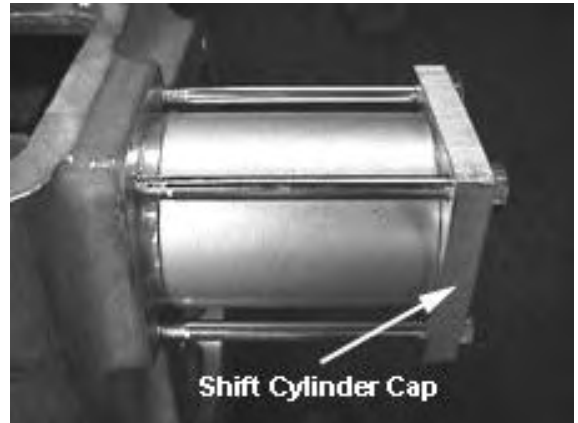

Fig. 81
39. Install the shift cylinder cap using Loctite #242 on the threads. Torque to spec. See Fig. 81.